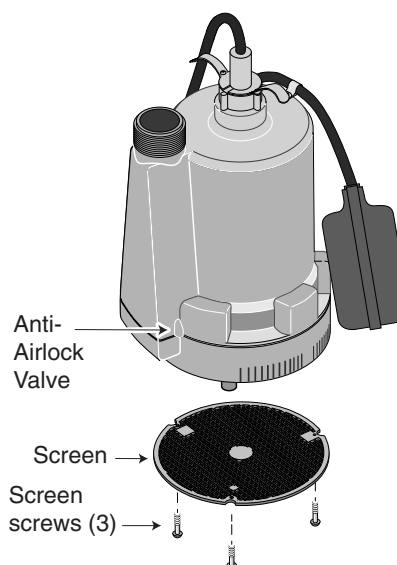

Figure 1 – To clean the screen and anti-airlock valve and to attach float switch.
- To clean the screen, remove the three screws holding the screen to the pump base (See Figure 1), remove and rinse off the screen.
This pump has a small hole in the side of the pump housing. See Figure 1. This is an anti-airlock valve. If you suspect an airlock, insert a hat pin or a pipe cleaner into the anti-airlock hole to clean out the debris.